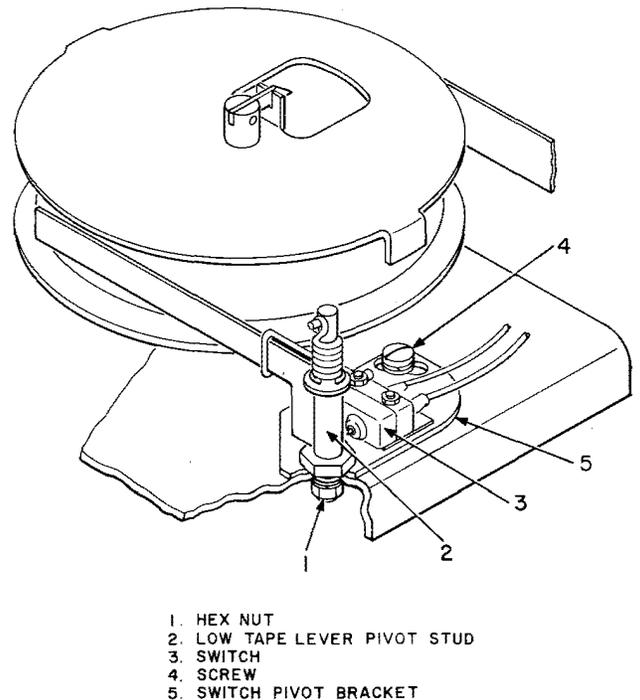

Fig. 4—KS-19717, L11, Low Tape Alarm Adjustment
4.08 Low Tape Alarm Adjustment of the L11 low tape alarm (Fig. 4) is accomplished by using the following procedure: